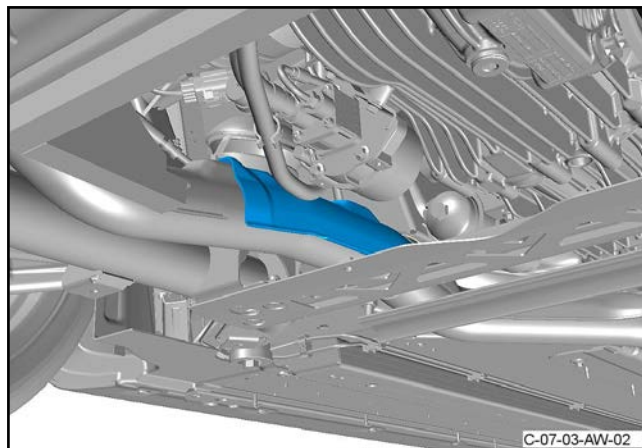

Figure 10
26. Put the front heat shield in position on the rear exhaust pipe (refer to Figure 10).